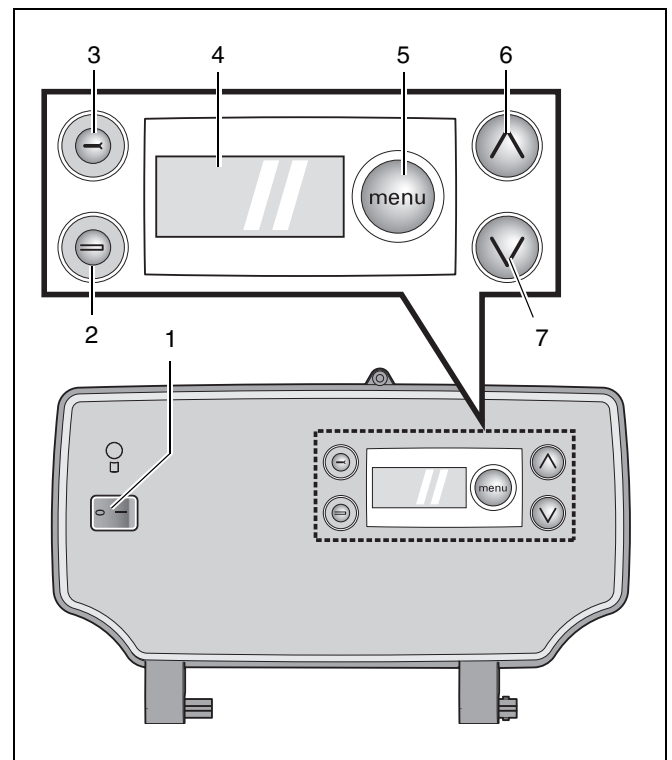
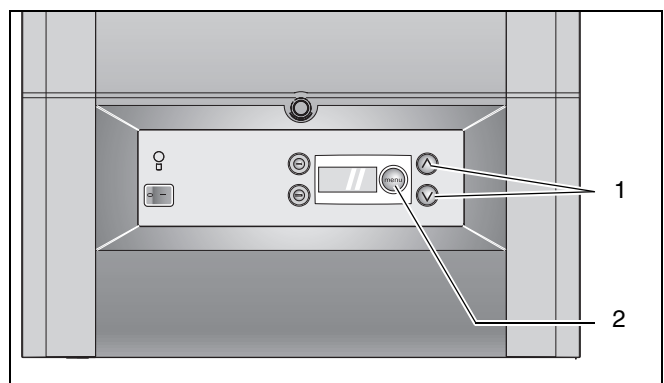

fig. 45 DBA
fig. 50 DBA - adjusting arrows
1. Mains switch (see fig. 45)
2. Reset button "⊖" (see fig. 45)
- item 1: mains switch
- item 2: "reset" button
- item 3: "service" button
- item 4: display
- item 5: "menu" button
- item 6: adjusting arrow up
- item 7: adjusting arrow down
3. Service Button "↶" (see fig. 45)
4. Display (see fig. 45)
5. Menu button "menu" (see fig. 45)
6. and 7. Up "⬆" and Down "⬇" keys (see fig. 45)
- Press "menu" button once then adjust the DHW temperature to the desired temperature (40 °C - 60 °C) using the "⬆" and "⬇" keys (see fig. 50, item 1). Factory setting is 48 °C.
- Press the "menu" button (see fig. 50, item 2) twice. The current setting blinks.
- Press  button (see fig. 50, item 2) three times then adjust the flow temperature to the desired temperature (30 °C – 80 °C) using the  and  keys (see fig. 45, item 1). Factory setting is 80 °C.